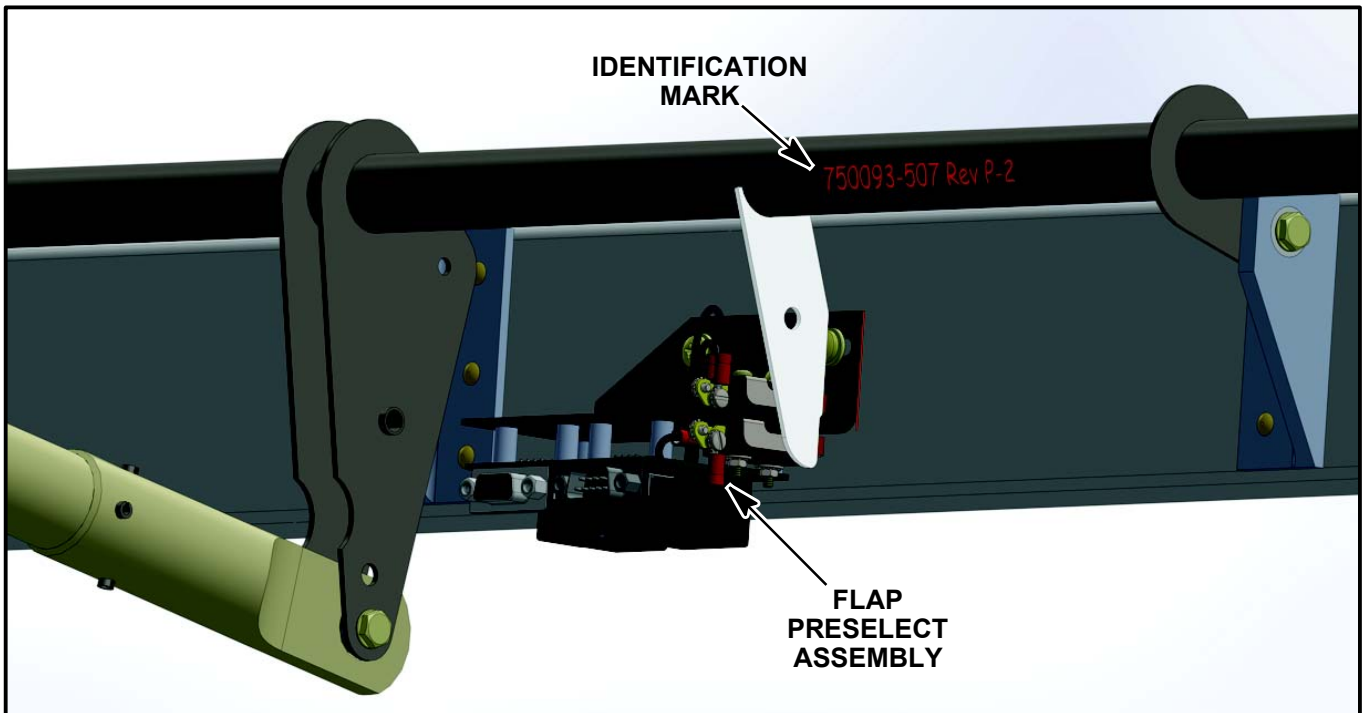

Figure SIM20-142-21 - SERVICE INSTRUCTION IDENTIFICATION MARK
- 1.22. Power the aircraft, cycle the flaps. (Refer to Figure SIM20-142-21.)